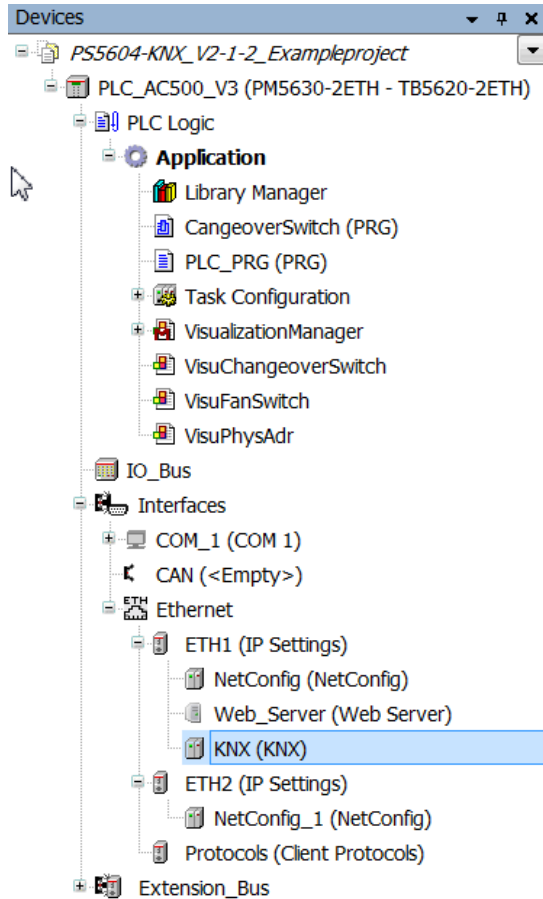

Figure 5: KNX at network interface ETH1
- Install it as shown in Figure 5 by clicking on Apps in the lower right corner of the ETS and clicking on the + icon to add.